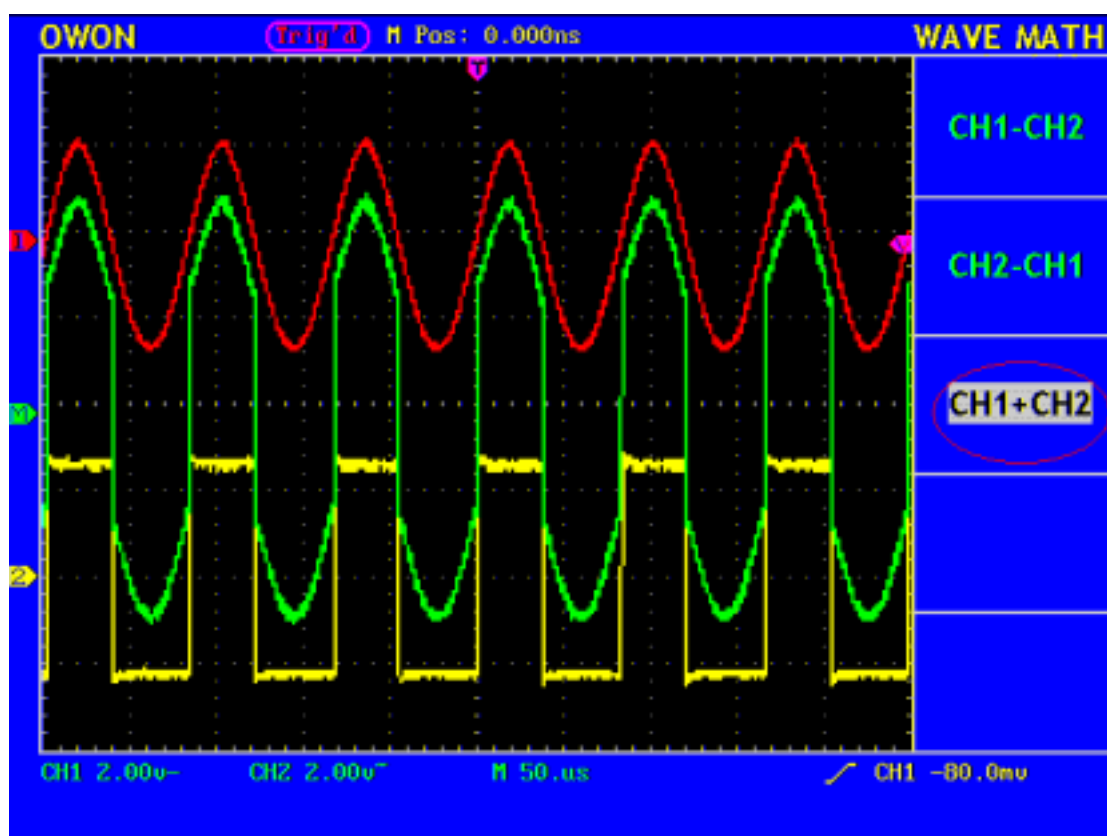

Fig. 26 Wave Form resulted from CH1 +CH2 Mathematical Manipulation
2. Press the **F3** menu selection button and choose **CH1+CH2**. The green calculated wave form M is displayed in the screen; press the **F3** menu selection button again, the wave form M is closed off (see Fig. 26).